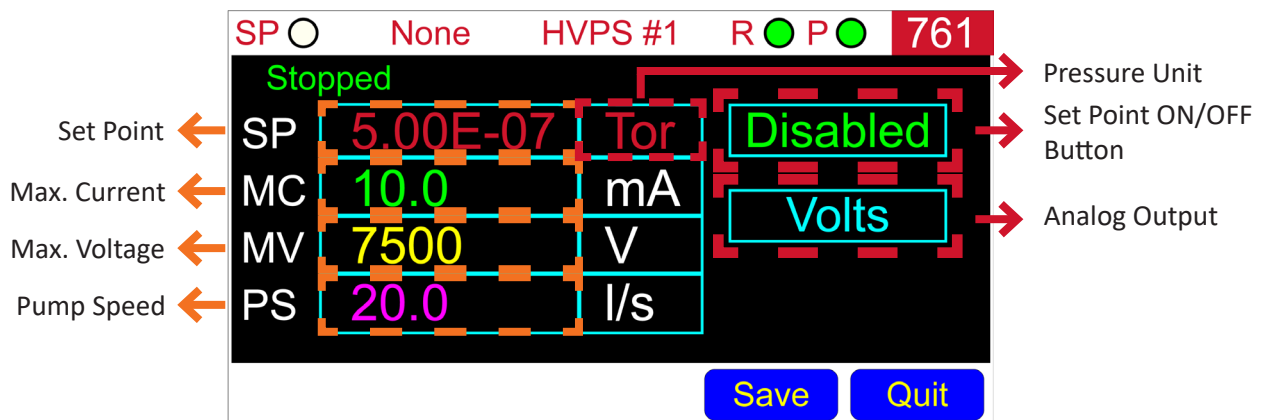
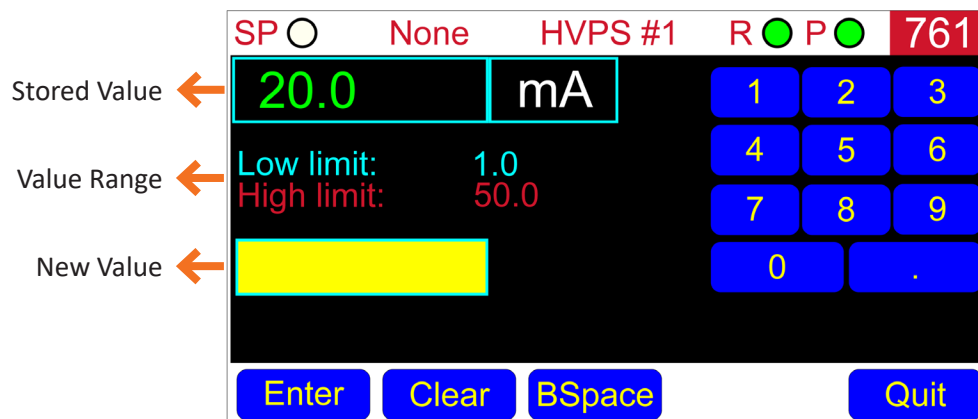

Figure 10. Channel configuration screen
Figure 11. Example of a parameter entry screen
The Channel Configuration display provides access to the channel-specific parameters that affect Terranova® 760 series output and ion pump operation. As shown in Figure 10, all parameters which can be modified are enclosed (for illustrative purposes) in either an orange or red rectangle. Tapping on a numerical value (i.e. orange rectangle) opens a Parameter Entry screen (see Figure 11
The parameter entry screen allows the user to enter a new parameter value via the front panel. To open the respective parameter entry screen, the user must tap the numerical value of the parameter to be modified. Only parameters that are enclosed by an orange rectangle (see Figure 10) will open a parameter entry screen. The Terranova® 760 series will return to the Main Display if left unattended for more than 5 minutes; any unsaved changes will be deleted. Any unsaved changes before a power loss will also be deleted.
Figure 11 illustrates an example of a parameter entry screen — all parameter entry screens will have a similar layout. A number pad with mathematical symbols will become available so the user can input the new parameter value. The currently-stored value is visible in the top, left corner of the screen. The Low and High Limit values define the range of the parameter. The new value will appear on the yellow rectangle and may be input in a number of formats so long as it possesses the correct syntax and is within the parameter range. An incorrect format or out-of-range value will output the error code "Value out of bounds" below the yellow rectangle (see "Parameter Entry Screen Example").
4. To change a parameter value enclosed by an orange rectangle, tap a numerical value to open the respective Parameter Entry screen (see Figure 11 for a screen description).